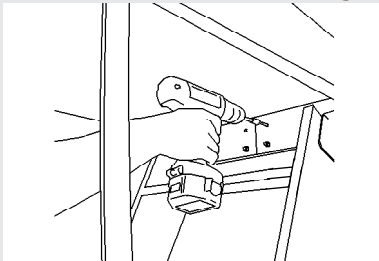

fig 10
5. From a step ladder or sawstool or similar (not the attic stair), fix the hinge end of the stair to the ceiling framing through the two outer predrilled holes in the hinge plates (figure 10). Use the 65mm Timbertight screws supplied or something similar. Do not fit tight yet.